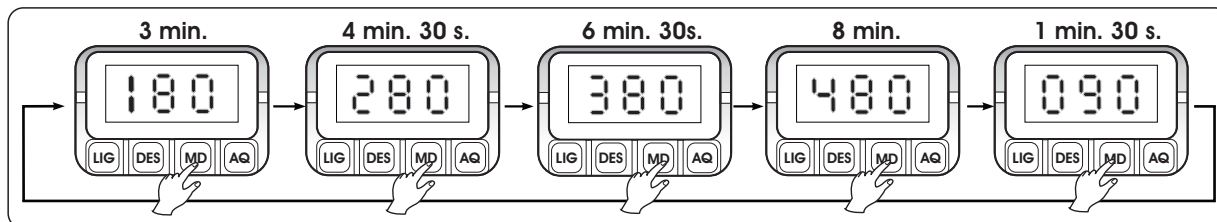

Fig.13
- 6►Select the time desired on the panel using the **MD** key. The time selection begins with the standard cycle of 180s (3 min.). Each touch on the **MD** key, the display will show one of the 5 preset cleaning times (Fig. 13).